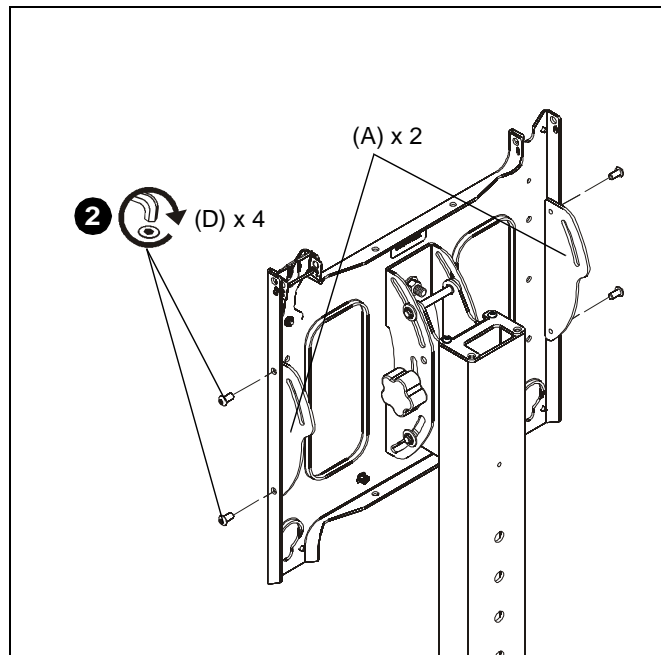

Figure 2
3. Connect two side pitch brackets (A) to faceplate using four 1/4-20 x 1/2" button head cap screws (D). (See Figure 2)